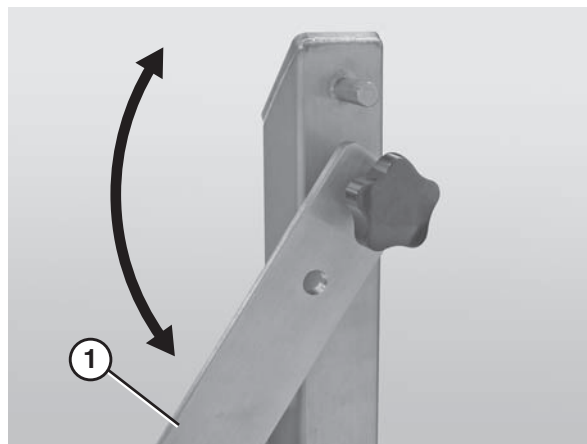

Figure 18
6. Lower the quick release arm (**Figure 18, item 1**) on one of the stands. *Note: if the conveyor is not equipped with Quick Release (QR Type) stands, it will be necessary to remove the entire stand. For detailed instructions, refer to the "Sanitary Support Stands Installation, Maintenance and Parts Manual."*